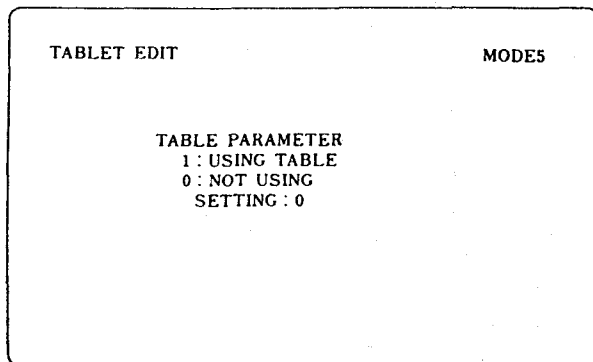

Fig. 9.32
- (1) CRT display in the MODE 5
- (a) When the NEXT key is pressed and MODE 5 is selected, the CRT displays the following figure (shown in the Fig. 9.32).